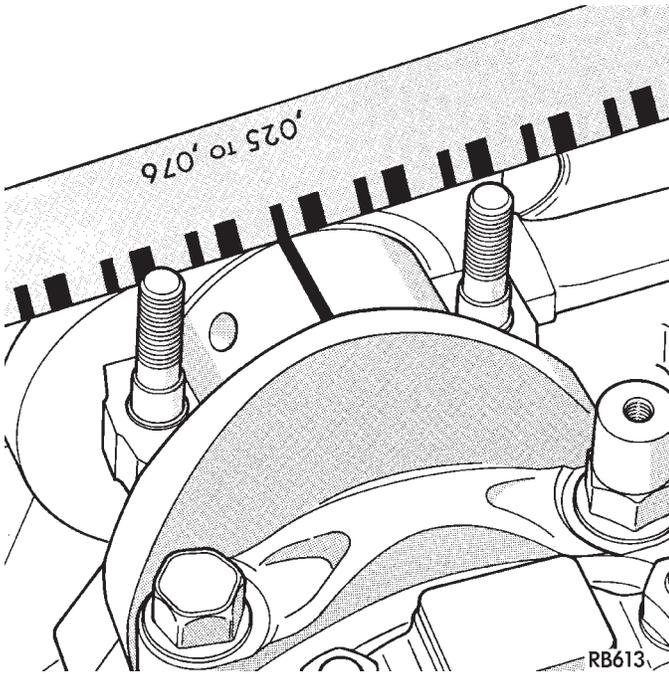

Fig. 23 Checking Connecting Rod Bearing Clearance
(1) Follow procedure specified in the Standard Service Procedures Sections for Measuring Main Bearing Clearance and Connecting Rod Bearing Clearance (Fig. 23). Refer to specifications. (Fig. 26).